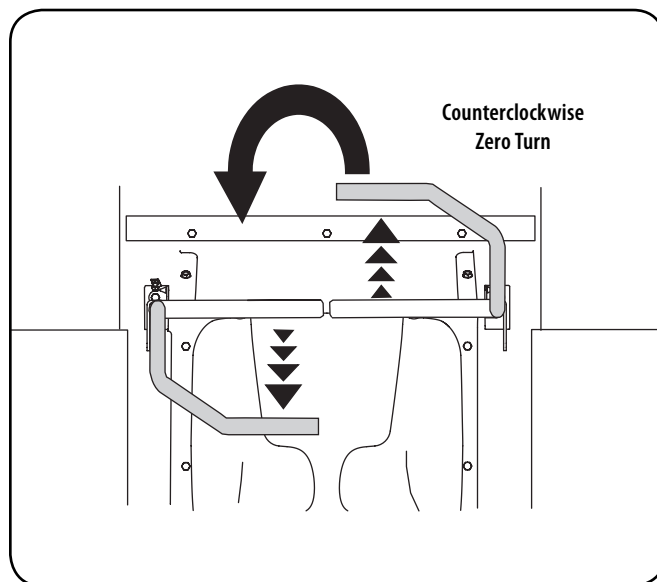

Figure 19
3. To turn counterclockwise, move the right control lever forward while simultaneously moving the left control lever rearward. See Figure 19.